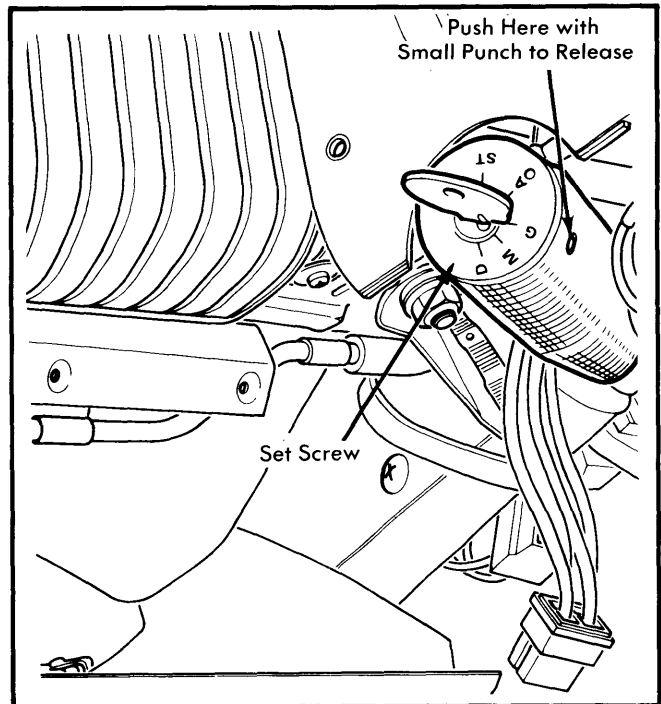

Fig. 3 Ignition Switch Removal
2) Remove set screw and press in retaining catch with a small punch. Push switch body from rear to release it. See Fig. 3.